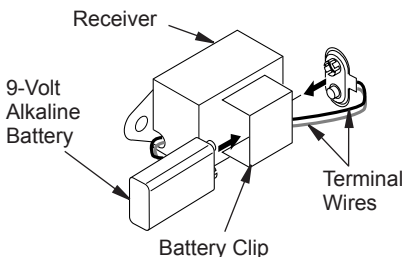

Figure 38 - Attaching Alkaline Battery to Receiver
3. Locate battery clip mounted on back of receiver. Slide a 9-volt alkaline battery (not included) through the clip (see Figure 38).